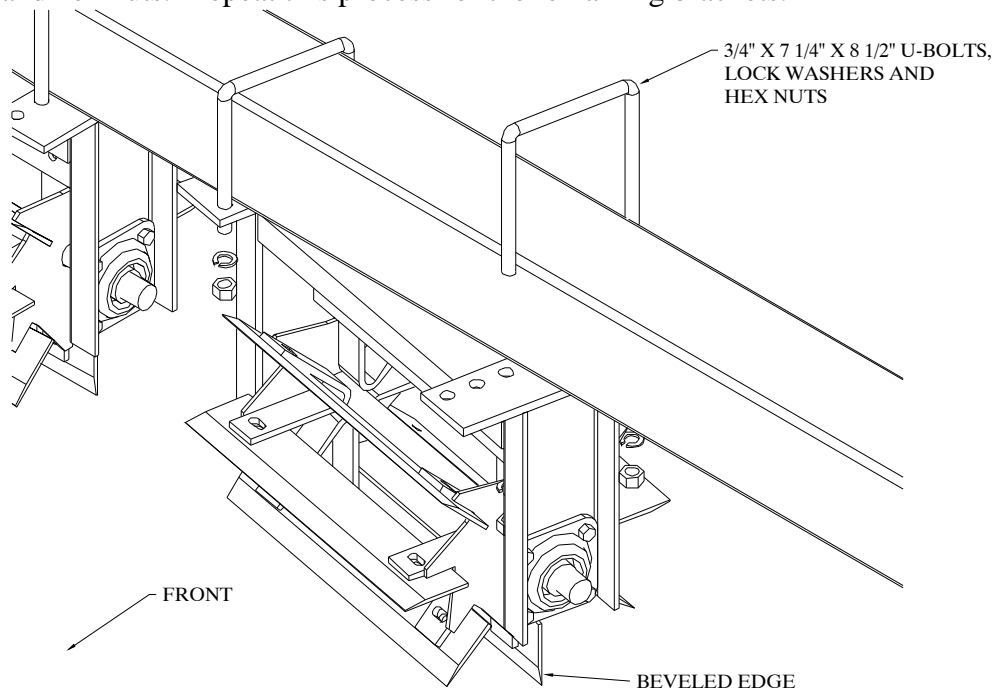

Figure 5
5. To determine the front side of the Reels note the location of the beveled edge in figure 5. The NON-beveled edge is to make contact with the ground first. Center the Reel Assembly on the mark you made near the center of the unit and attach using the $\frac{3}{4}$ x $7\frac{1}{4}$ x $8\frac{1}{2}$ U-bolts, lock washers and hex nuts. Repeat this process for the remaining brackets.